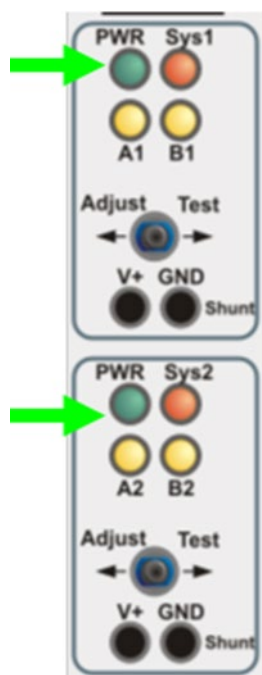
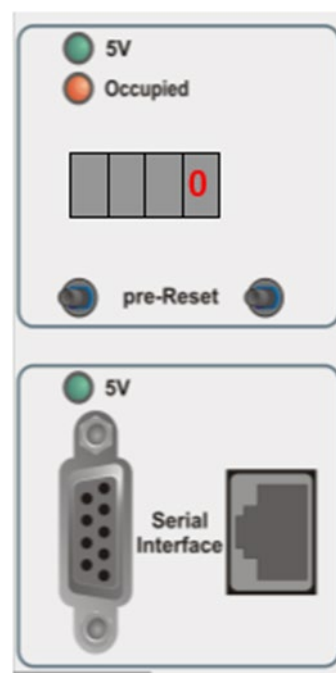

Figure 5 - IMC Board
Figure 6 – ACB Board
4.1 Identify the Evaluation Board (IMC) related to the axle counter sensor to be tested and check the section is indicating clear. The IMC Board should only have the two green power LEDs lit (Figure 5) and the associated ACB display shows 0 (Figure 6).